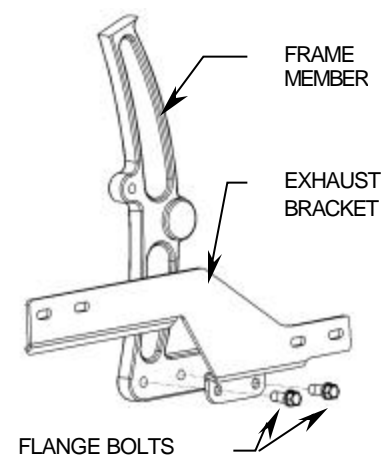

FIGURE 2
8. Place the exhaust mount bracket on the motorcycle and bolt into place using the supplied 3/8" bolts. (See Figure 2.)